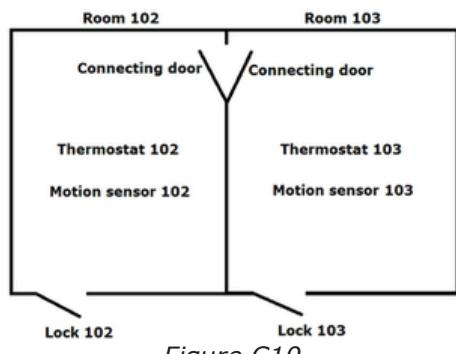
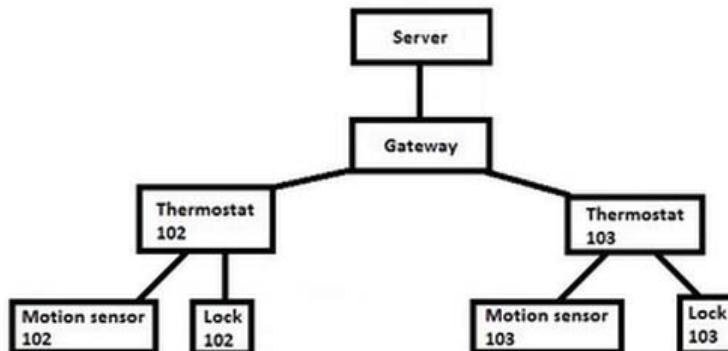

Figure C10
Figure C12
When a suite card is presented at one of the concerned VingCard locks (to either *lock 102* or *lock 103* in the example in *Figure C10*), the thermostat communicates with the other connected room to activate suite mode and share events. The suite will be active and events will be shared between the two thermostats, even if the connecting doors are closed. Upon check-out or if the suite card expires, the thermostat disables event sharing.
The online network for the example in Figure C10 looks as in Figure C12. The two thermostats 102 and 103 must be set up under the same parent in the network, i.e. be set up in the same PAN (*personal area network*). To set up the network, follow the steps below:
2. In this example, the *master thermostat* is in room 102 (room A in Figure C10). Connect the service cable to the thermostat in room 102.
- Enter the **Suite room** (*slave room*); in this example 103 (room B in Figure C10).